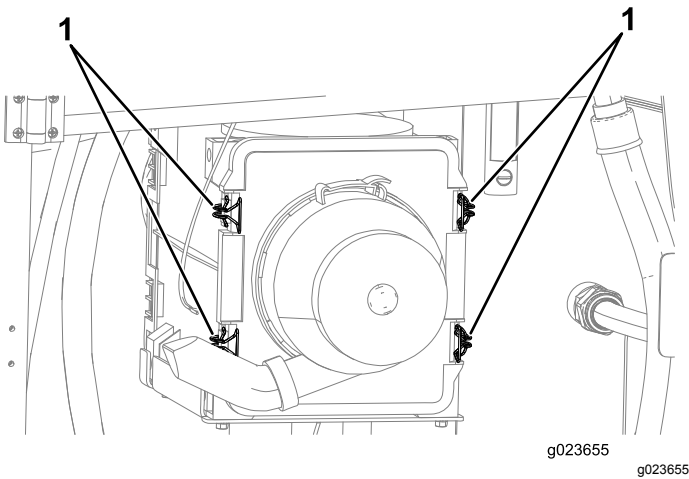

Figure 88
- Pull the 4 latches for the air-cleaner cover outward (Figure 88).
- Place air-cleaner cover inward until it is fully seated, and secure it with the latches (Figure 88).